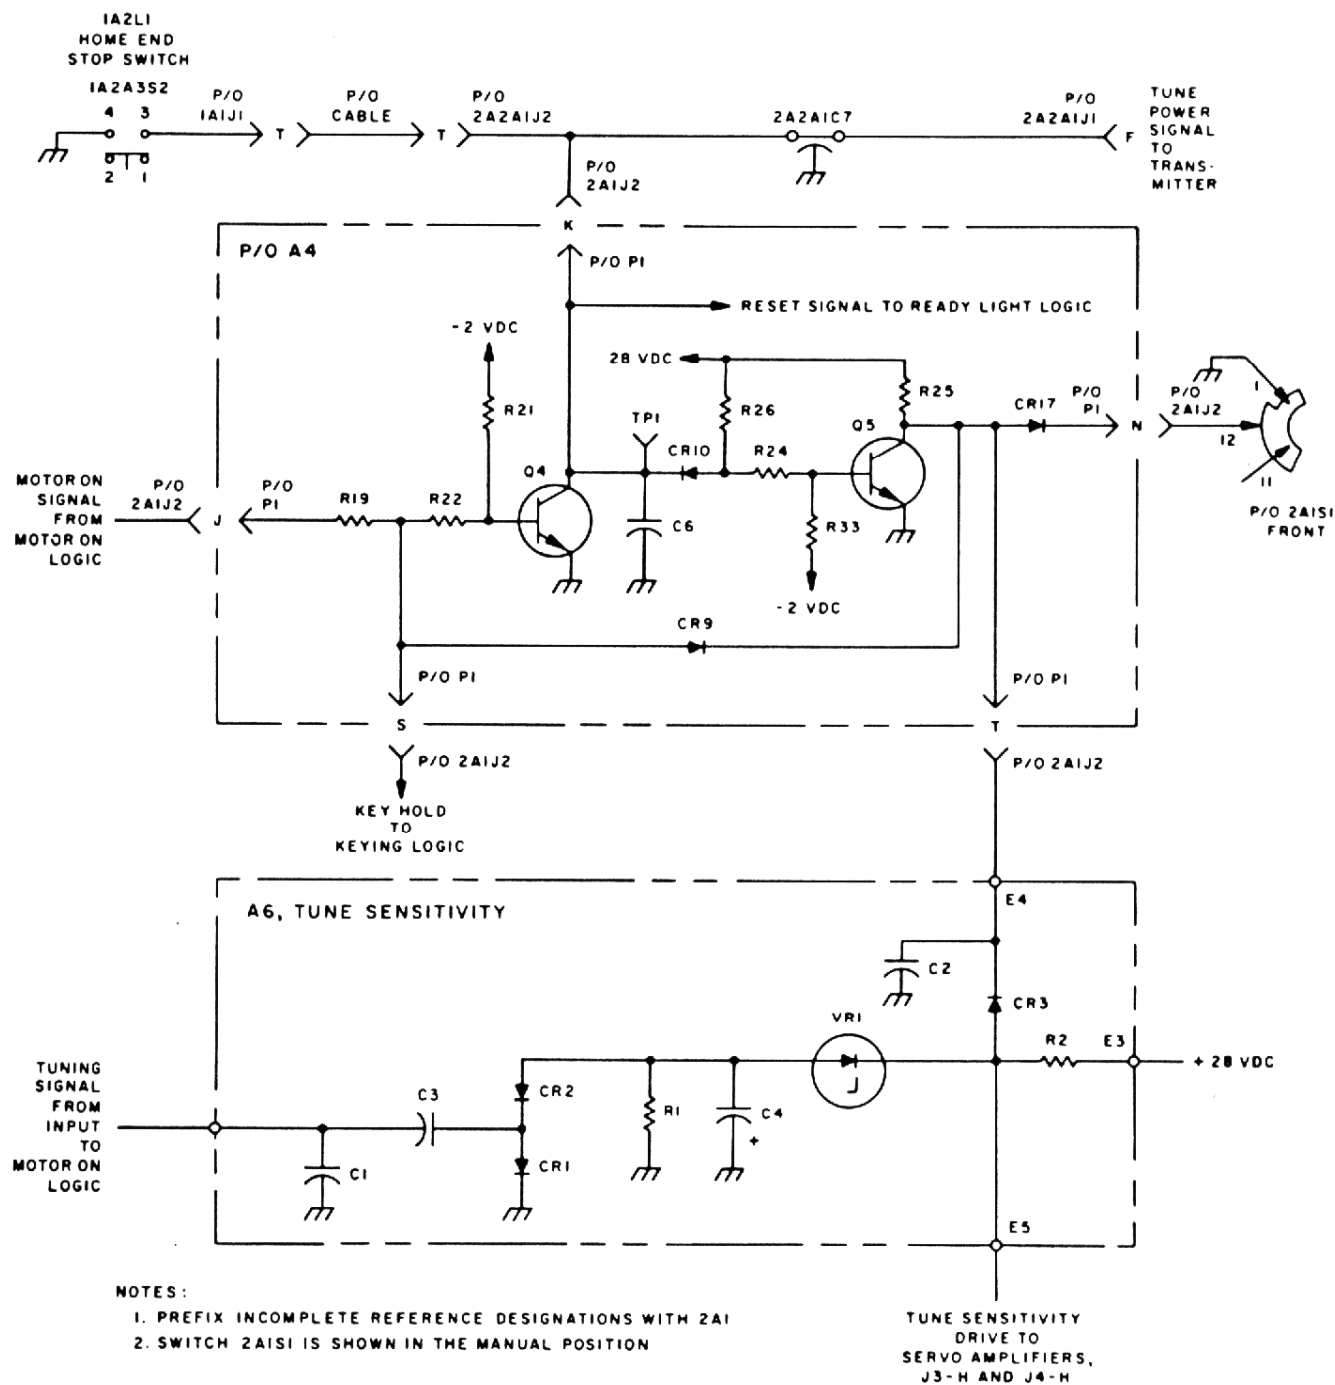

Figure 4-13. Tune Logic, Simplified Schematic Diagram
The tune logic (figure 4-13) consists of two inverters (A4Q4 and A4Q5) and various other associated components. The function of this circuit is to provide: (1) a TUNE-POWER signal for application to the transmitter to reduce the RF power level to 150 watts while tuning, and (2) a positive TUNE SENSITIVITY DRIVE signal to increase the sensitivity of the servo amplifiers during the tuning cycle (paragraph 4.2.4). This circuit is used only during automatic operation.